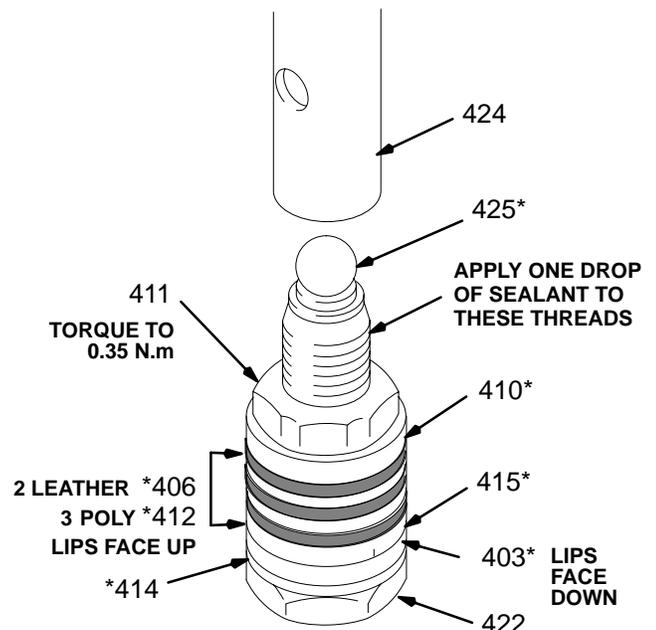

Fig. 40 0029
8. Clamp the flats of the piston rod (424) in a vise. Loosen the retaining nut (411). Unscrew the piston valve (422). See Fig. 40.
9. Disassemble the piston valve (422). See Fig. 40.
1. Stack the backup washer (414), seal (403\*), female gland (415\*), alternate the packings (412\*,406\*), and then male gland (410\*) onto the piston valve (422). See Fig. 40.
2. Tighten the packing retaining nut (411) onto the piston valve (22) to the torque specified in Fig. 40.
3. Put the ball (425\*) on the piston valve (422). See Fig. 40.
4. Apply one drop of adhesive, supplied, to the threads of the piston valve. Then hand tighten the valve assembly into the piston rod just until the nut (411) contacts the rod. See Fig. 40.
5. Place the flats at the top of the rod (424) in a vise.